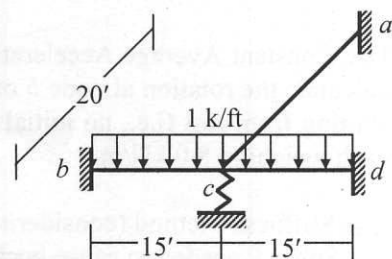

Fig. 4
4. Use Stiffness Method to calculate the deflection and rotation at joint *c* of the grid *abcd* shown in Fig. 4. The spring at *c* represents a circular foundation of radius 3-ft on the surface of sub-soil (half-space) with shear-wave velocity (v_s) equal to 300 ft/sec.